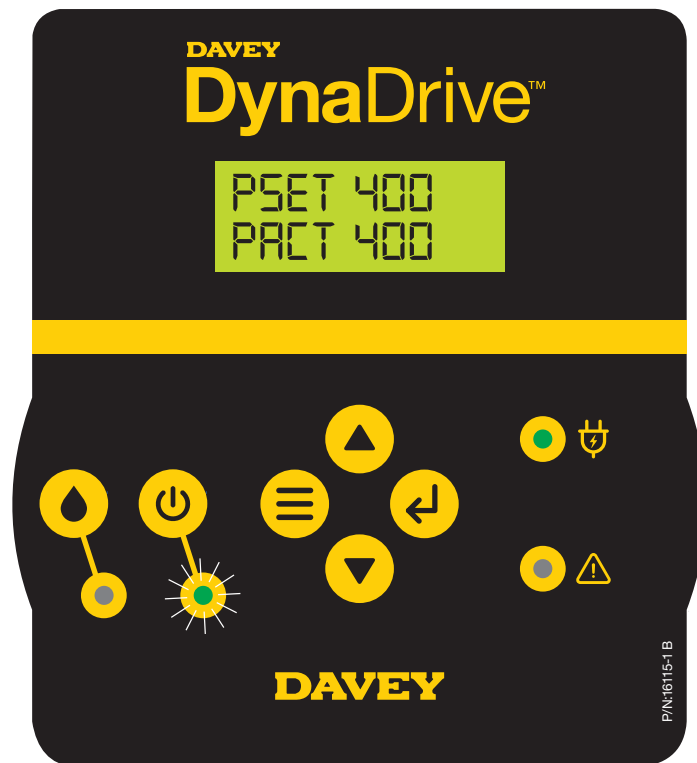

Figure 6.4
- The  **Automatic LED** will flash green to indicate the pump is in standby maintaining pressure, see figure 6.4.